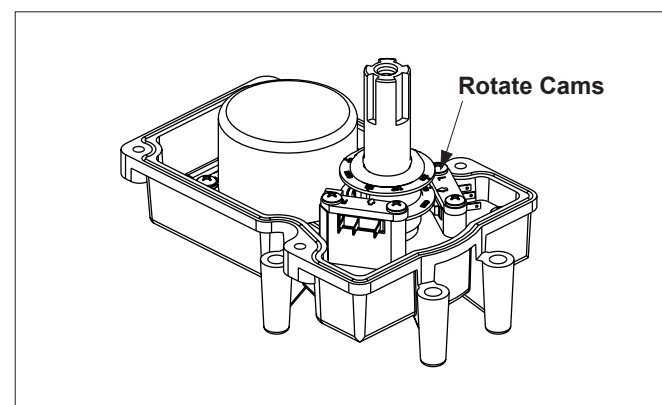

Figure 10. JVA Cam Adjustment
6. To set the cams, rotate the cam(s) until the arrow mark on the cam(s) align with the microswitch actuator (see Figure 10).